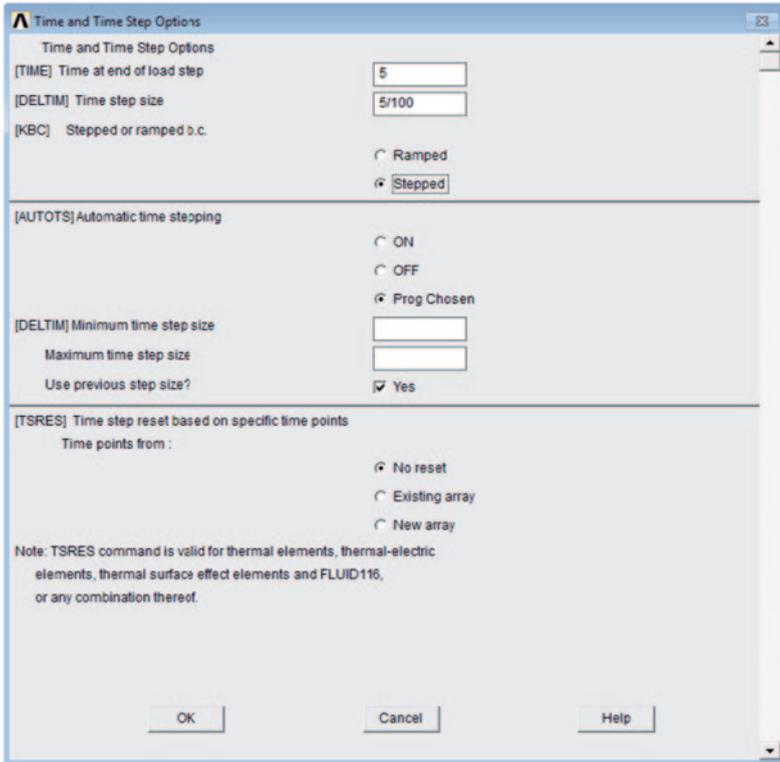

Fig. 5.20 Time and time step options dialog box used in the analysis
- As shown in Fig. 5.20, enter **5** in the **[TIME] Time at end of load step** text field and **5/100** in the **[DELTIM] Time step size** text field, and click on the **Stepped** radio-button for **[KBC]**; click on **OK**.